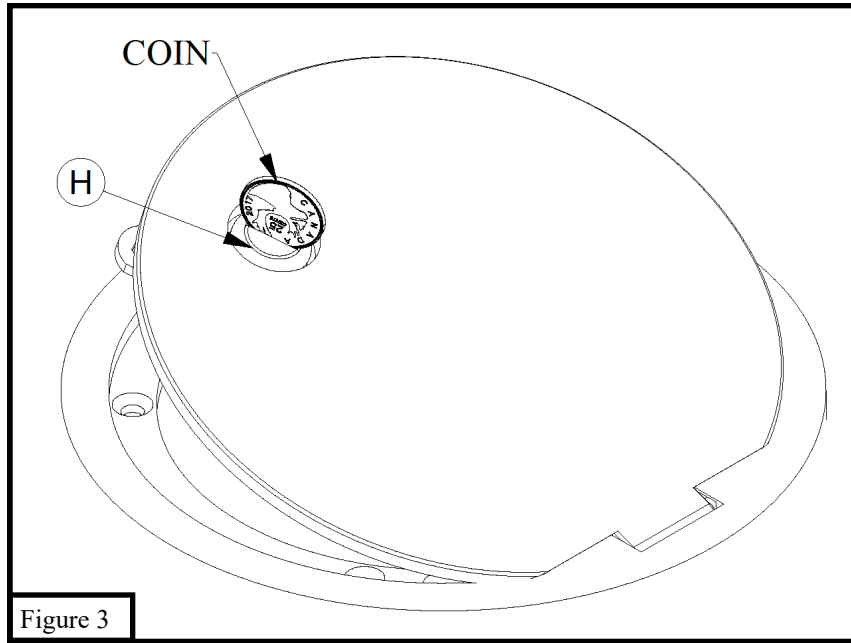

Figure 3
15. Attach *Hinged Floor Plate (B)* to wood floor using the 4 #10 X 1" *Wood Screws (E)* provided. It is best to drill a small pilot hole into the wood to avoid cracking.
16. After allowing 2 hours for grout to set, remove the 4 #10 X 1" *Wood Screws (E)* then remove all hardware holding the *Hinged Floor Plate (B)* to the socket assembly. This allows the wood floor to move independent to the socket when humidity changes in the gym
17. Re-install *Hinged Floor Plate (B)* to floor using #10 X 1" *Wood Screws (E)*.
18. If you chose VB23LK, VB26LK, VB27LK or VB23LK-CV socket with lockable floor plate, the *Locking Device (H)* can be operated with a coin or similar flat object. See Fig 3.